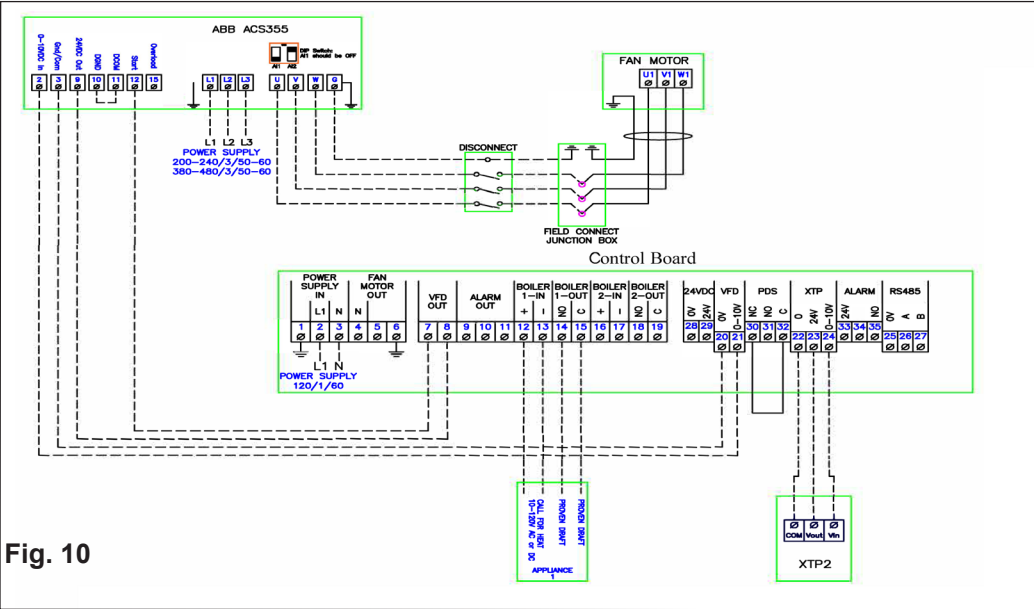

Fig. 10
- ▶ If using a 3-phase fan and VFD, connect the VFD to terminals 20 and 21 as shown in Fig. 10 and 11.
- If using a 3-phase fan and VFD, connect the VFD to terminals 20 and 21 as shown in Fig. 10 and 11.
To connect the 3-phase fan and variable frequency drive (VFD), connect the VFD to terminals 20 and 21 of the EBC24. **DO NOT** connect the fan directly to the control. Wire the ABB ACS355 series variable frequency drive according to fig. 10.